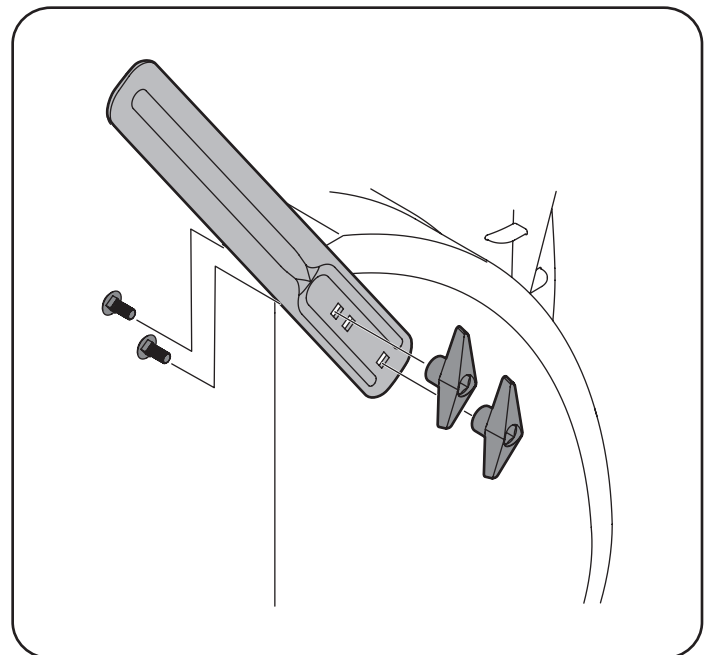

Figure 16
3. Attach the drift cutters with the screws and wing knobs on the outside of the auger housing as shown in Figure 16.